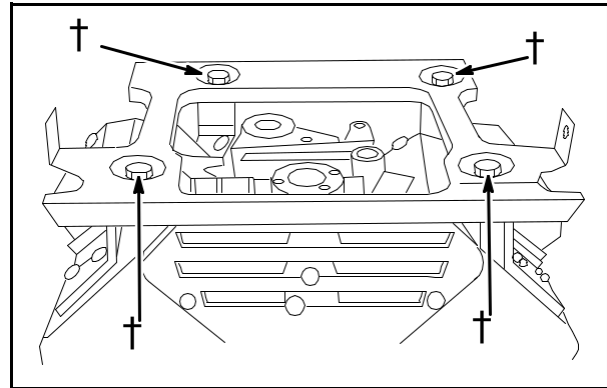

Fig. 2
Remove 4 screws (6) and the fuel tank base plate, **Fig. 2.**